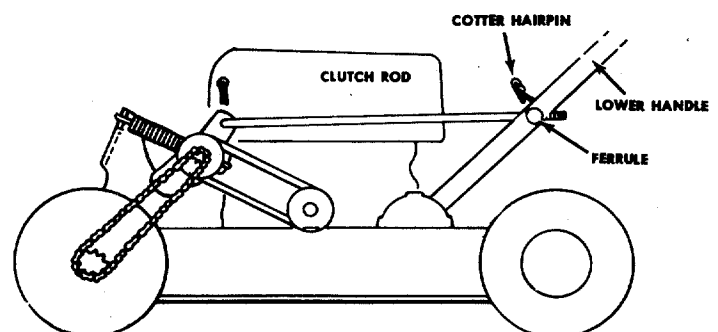

FIGURE 6.
9. Place adjustment rod with ferrule through hole in lower right hand handle. (See figure 6.) NOTE: Ferrule and adjustment rod must be to the inside of handle as shown in figure 6.